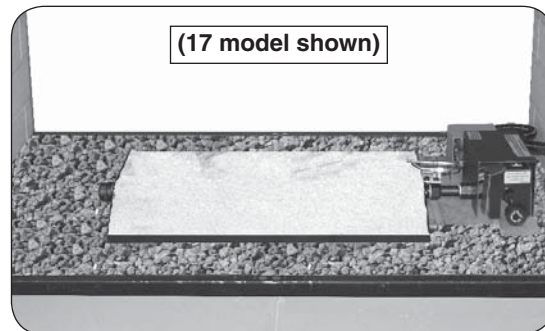

Fig. 20-1 Place sand/vermiculite
1. Fill the burner pan completely with the sand/vermiculite (see Fig. 20-1). **Avoid spilling the sand/vermiculite on the pilot assembly. DO NOT place sand/vermiculite on any other parts of the burner, valve, or heat shield.**